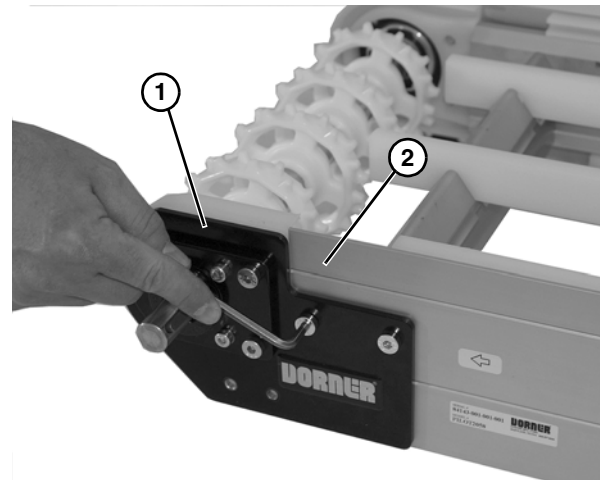

Figure 46
When reinstalling the drive spindle tail assembly, the drive tail assembly (**Figure 46, item 1**) should mate flush with the conveyor frame (**Figure 46, item 2**).